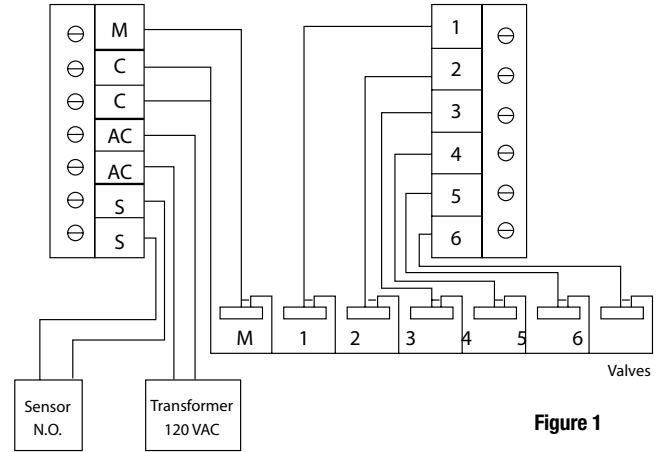

Figure 1
4. Connect valves common wire to "C" (common) and individual valve wire to appropriate valve # on the controller terminal (see Figure 1).
Connect either wire from sensor to the two sensor terminals on the controller (see figure 1). Follow the sensor manufacturer's instructions for calibrating the sensor. See section 16 for sensor setup.